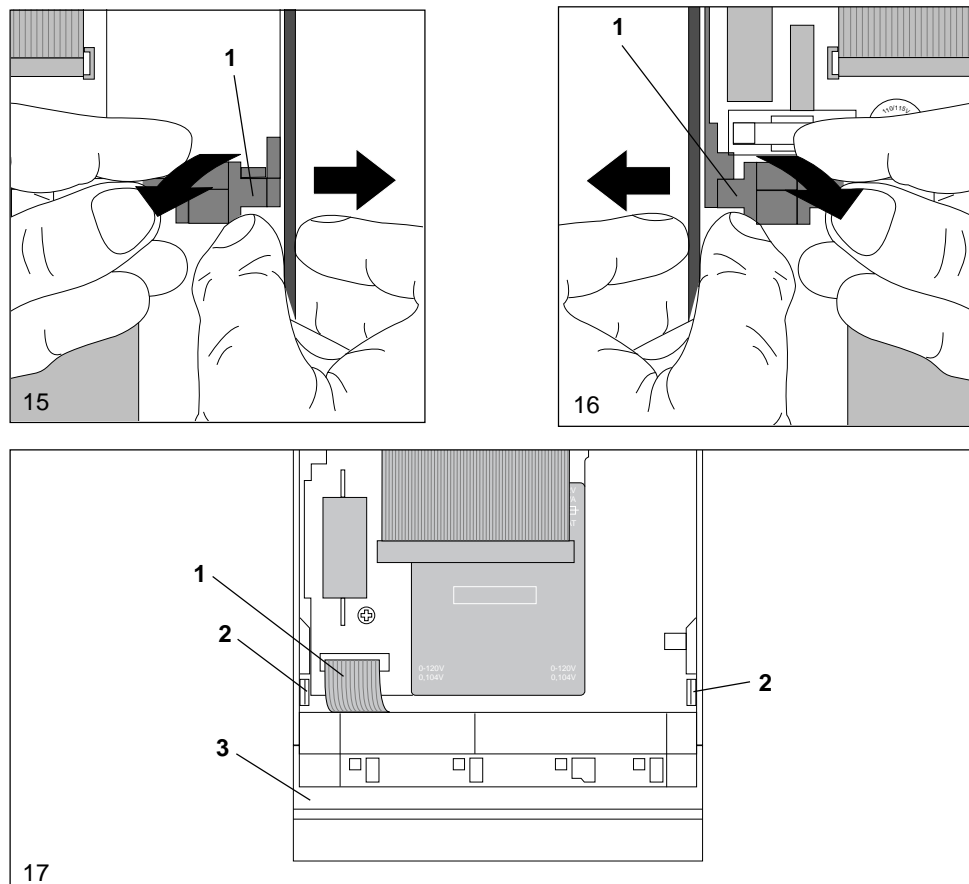

Fig. 15–17: Exchange payout set
3. Push side cover on the right side of the housing outwards and remove snapped in partition (1) together with cash-box channel (see fig. 15).